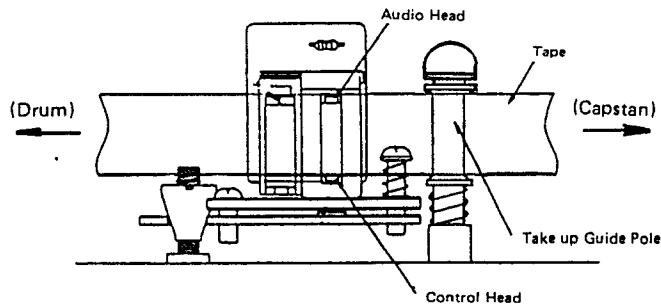

Fig. 37 Control head phase adjustment
8. Tighten adjustment nut slide the A/C head assembly slowly in the direction of the arrow as shown in Fig. 37.
9. Set the A/C head assembly to the position where first maximum FM level is obtained. Put screw Locking glue on the nut ①.